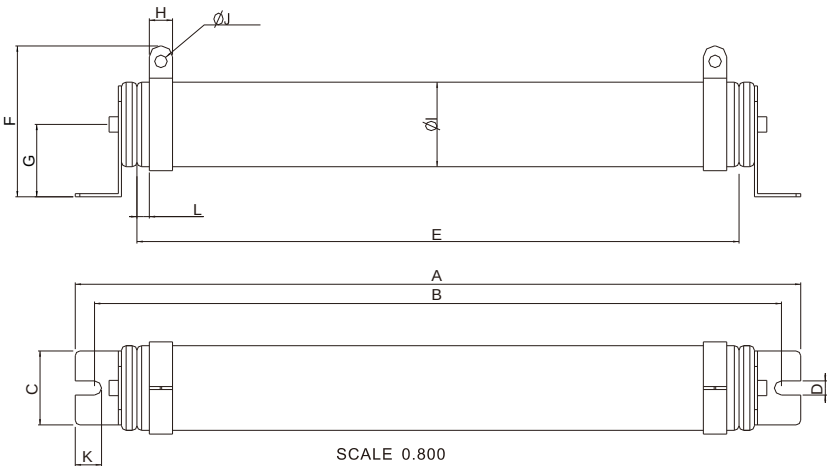

Figure 7-1
- 1.1 Wire wound resistors: For 1000 W and above, refer to the following appearance of wire wound resistor (Figure7-1) and its model and specification comparison table (Table 7-5) for details.